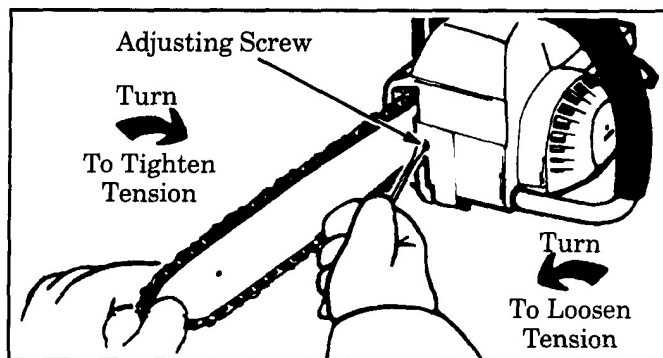

Figure 10
1. Lift up the tip of the guide bar and turn the adjusting screw clockwise until the chain does not sag beneath the guide bar. Figure 10 .